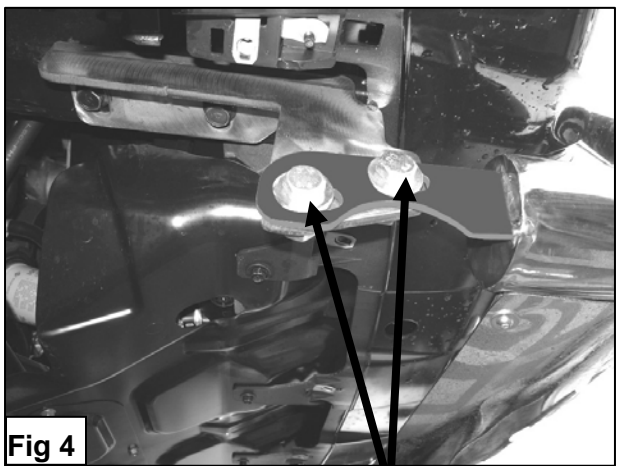

Fig 4
6. With help position Bull Bar on the outer side of Mounting Brackets. Attach Bull Bar to Mounting Brackets using the included (4) 12-1.75mm x 30mm Hex Head Bolts, (4) 12mm Lock Washers, (4) 12mm Hex Nuts, and (8) 12mm Flat Washers (**Figure 4**).